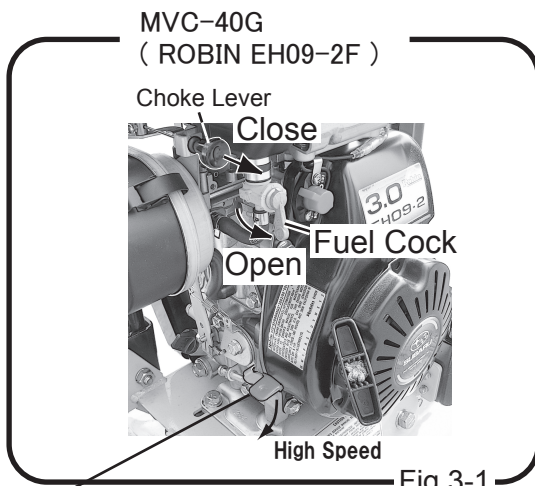

Fig.3-1
- Turn the lever of the fuel cock downward and feed fuel. (Figs.3-1, 3-2)
3 Open the speed control lever half. (Fig.3-1, 3-2)
When it is cold or the engine does not start easily, close the choke lever. (Figs. 3-1 , 3-2)
5 When the engine has started, return the speed control lever to the low speed position immediately. Listening to the sound of the explosion, return the choke lever gradually to the fully open condition. (Fig.3-1 , 3-2)
- 1 If you open the speed control lever at a stroke, this machine starts vibration and moves forward. If you open it slowly, the clutch may slip, so open the speed control lever at a stroke without hesitation. (Figs. 3-1 , 3-2)
Close the lever of the fuel cock. (Fig. 3-1, 3-2)